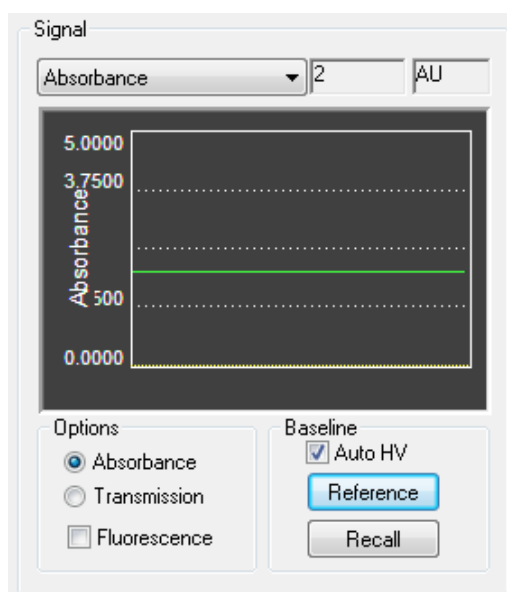

Figure 2-11: the Signal panel for Absorbance
1) Assuming that the SHU has been prepared as in Section 2.4, on the **Signal** panel (Figure 2-11) of the Pro-Data main window select **Absorbance** from the drop down list. Ensure that **AutoHV** is ticked.
4) Fill the optical cell with a suitable reference material (e.g. water or other solvent). Click the **Baseline** button in the **Signal** panel (Figure 2-11) to zero the absorbance detector.